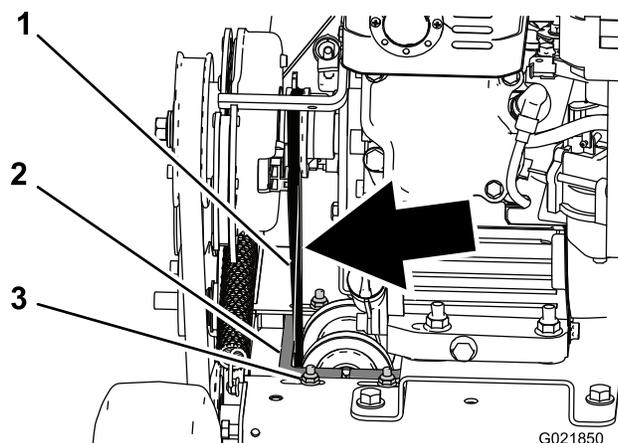

Figure 25
4. Check the tension of the belt. It should not flex more than a 6 mm (1/4 inch) with moderate finger pressure applied to the span just above the machine frame (Figure 25).
move the carriage to the left, tightening the belt; then secure the 4 mounting nuts and bolts (Figure 25).